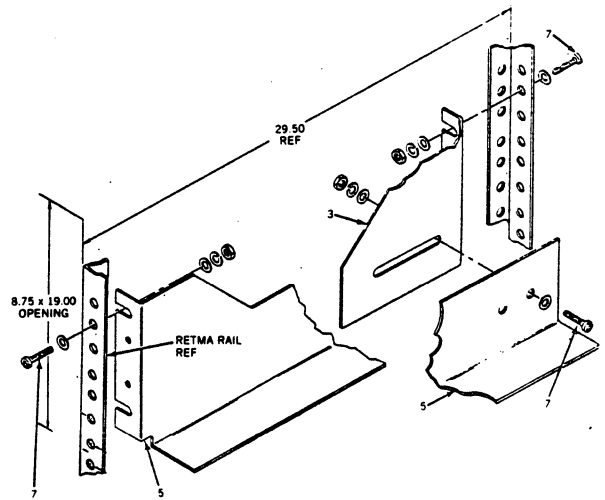
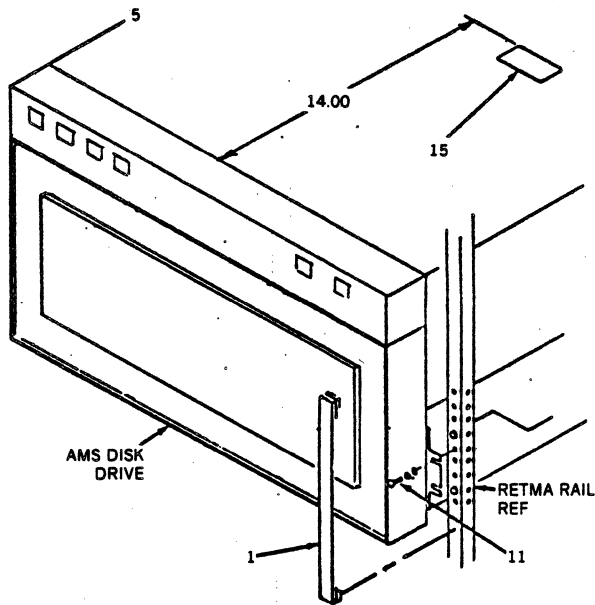

Figure 7-5. Rear Adapter Installation
Figure 7-7. Disk Drive Enclosure Installation
2. Mount rear adapter, L.H. (3) to back RETMA Rail (left side) at the desired height. See Figure 7-5.
3. Mount Rear Adapter, R.H. (4) to back RETMA Rail (right side) at the same height as the left adapter.
- Loosely attach left Support Rail (5) to Rear Adapter (3). Refer to Figure 7-5.
- Mount the right Support Rail (6) in the same manner.
- Carefully slide disk drive enclosure into cabinet (on support rails) and attach Mounting Plates (2) to front RETMA Rails. See Figure 7-7.
- Attach magnetized Trim Strip and CAUTION label (15).